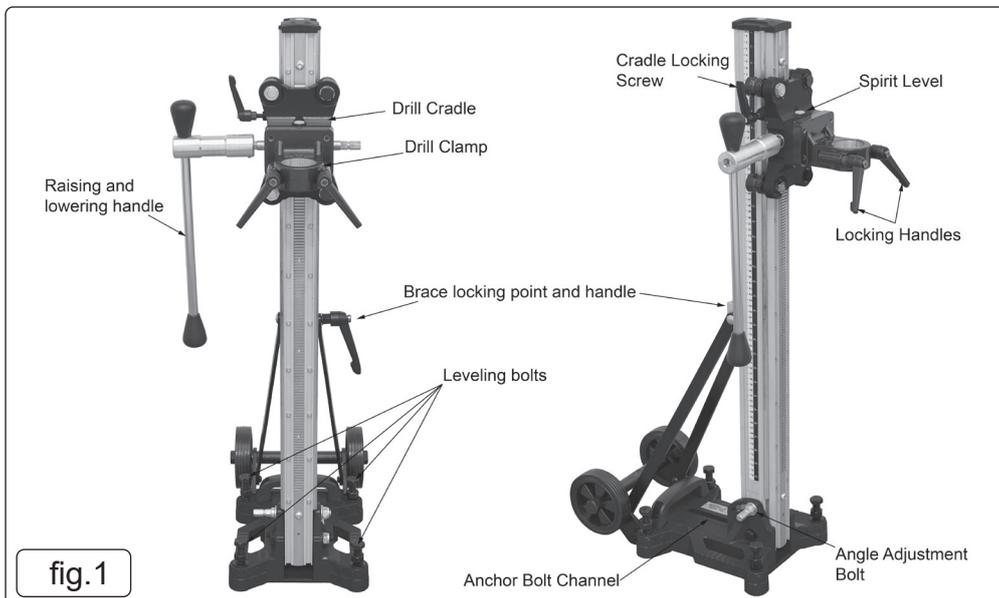

fig.1
4.1. ATTACHING DRILL TO STAND REF. FIG 1
- 4.1.1. The drill is attached to the stand using the drill clamp (fig.1)